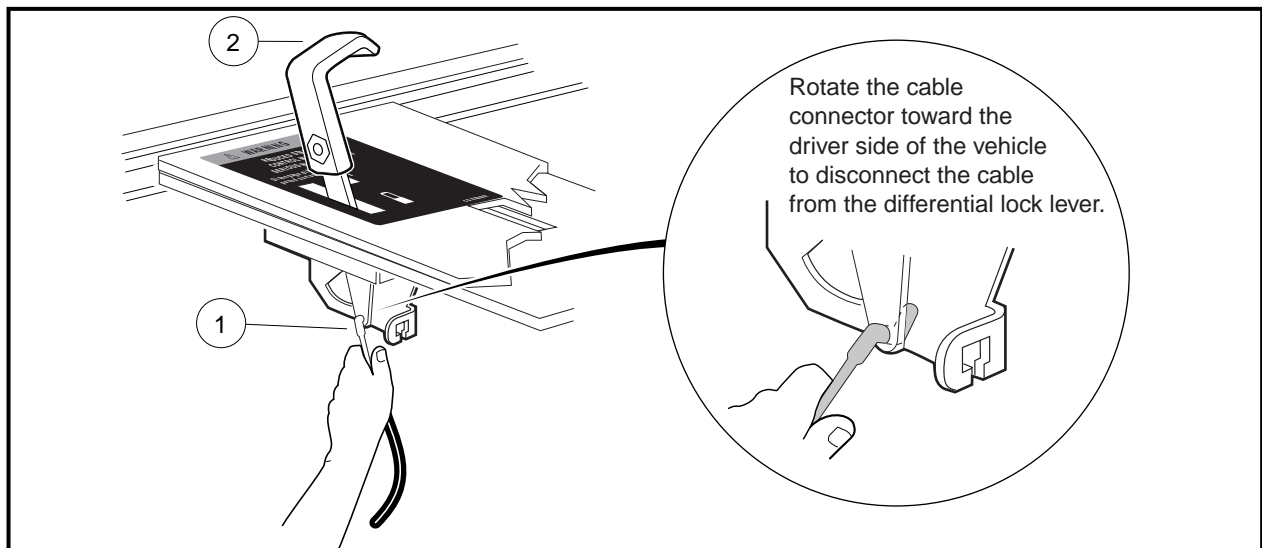

Figure 16-14 Differential Lock Cable Removal
3.5.4. With handle in the engaged position and the cable disconnected from the bracket, rotate the cable connector toward the driver side of the vehicle to disconnect the cable from the differential lock lever (1) (**Figure 16-14, Page 16-9**).